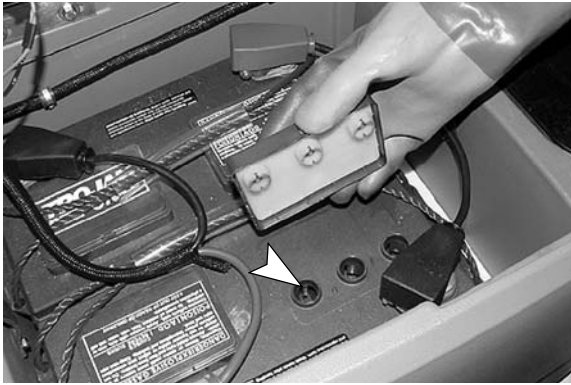

FIG. 32
- Before charging the batteries, check the electrolyte level in each battery cell (Figure 32).